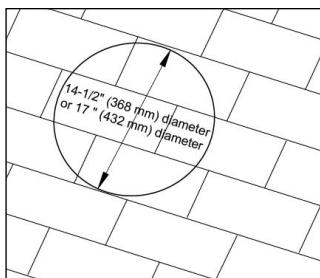

Figure 3
- 4. Cut roof hole...**between two rafters using predrilled marker and template on back of carton, cut your hole to the proper size (size and placement of hole are determined by whether you have 16" [406 mm] or 24" [610 mm] center rafters). See Figure 3.